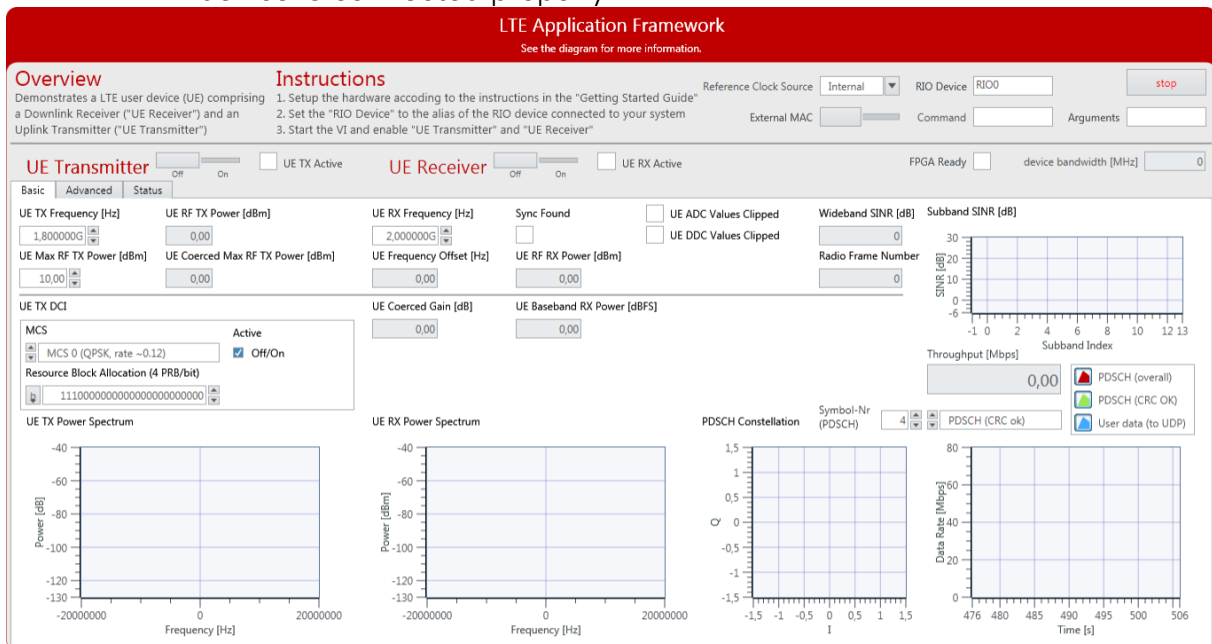

Figure 16 Front Panel of LTE Host UE.gvi
- g. The front panel of this VI is shown in Figure 16.